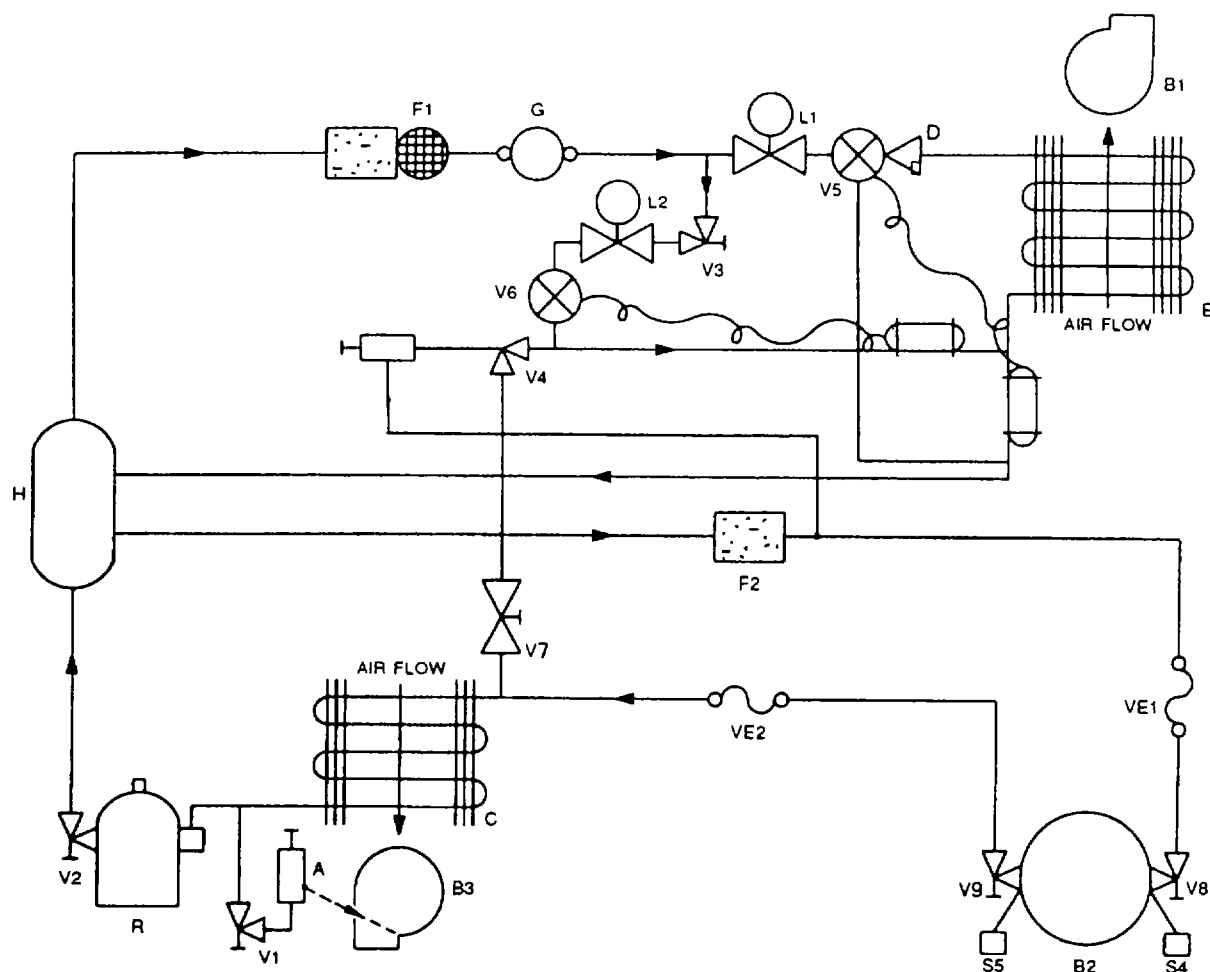

Figure 1-3. Functional Block Diagram
**1.12 SCOPE.** This section tells how the air conditioner works in its different cycles (see fig. 1-3).